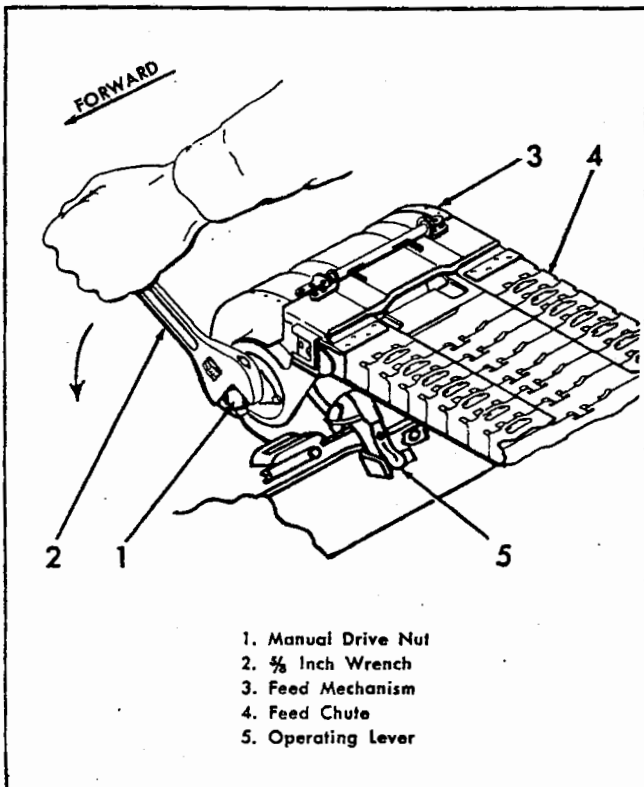

Figure 4-144. Loading Feed Mechanism.
4-1737. DESCRIPTION. (See figures 4-144 and 4-145.) Ammunition is fed to each gun by the AN-M2 feed mechanism which is mounted on the magazine slide. The forward end of the feed mechanism is held rigidly in position by two hook-shaped projections and the aft end is secured by the magazine slide lever latch. The feed mechanisms (IF-122-300) on the right wing guns are not interchangeable with those (IF-122-275) on the left wing guns. In operation, however, all four are identical in that they bring belted ammunition into the gun, separate the rounds from the links, and feed the rounds, one at a time, into the breech of the gun. The feed mechanism remains stationary and is operated by the fore and aft movement of the operating lever during recoil and counter-recoil of the gun. The feed mechanism drive system will regain full drive spring torque after a dud has been encountered and removed from the gun by recharging.
a. **LOADING.** (See figure 4-144.) A belt of ammunition is inserted into the feed mechanism, empty single link loop first, with open end of loop toward the starwheels. As soon as the first round of the belt has engaged the teeth of the starwheels, the ammunition can be drawn into the feed; by turning the manual drive nut on the front face of the feed mechanism. The starwheel drive-spring is wound by continuing to turn the manual drive nut three quarters of a turn after the ammunition